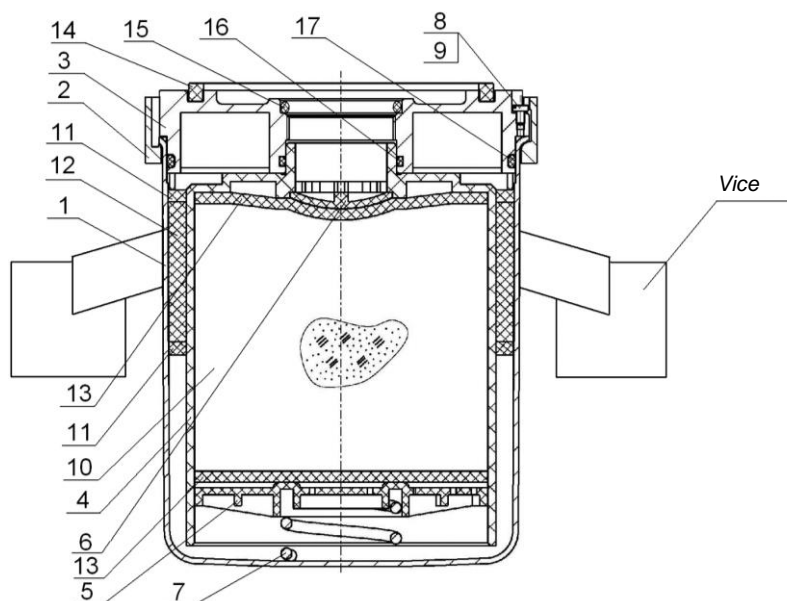

Fig. 1 Regeneration holder 8043.35.12.460
- disassemble the holder by installing and clamping it in vice with soft pads on jaws to prevent deformation of cap 1, as shown in Fig. 1.
Assemble the holder as per Fig. 1.